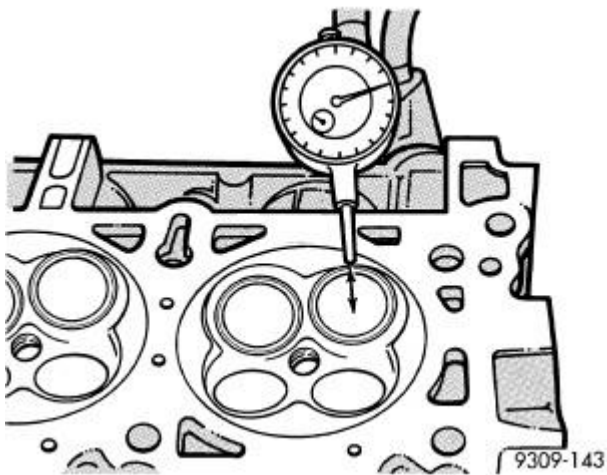

Fig. 297: Measuring Valve Guide Wear
3. Attach dial indicator Tool (special tool #C-3339A, Set, Dial Indicator) to cylinder head and set it at right angle of valve stem being measured. Refer to **Fig. 297**.